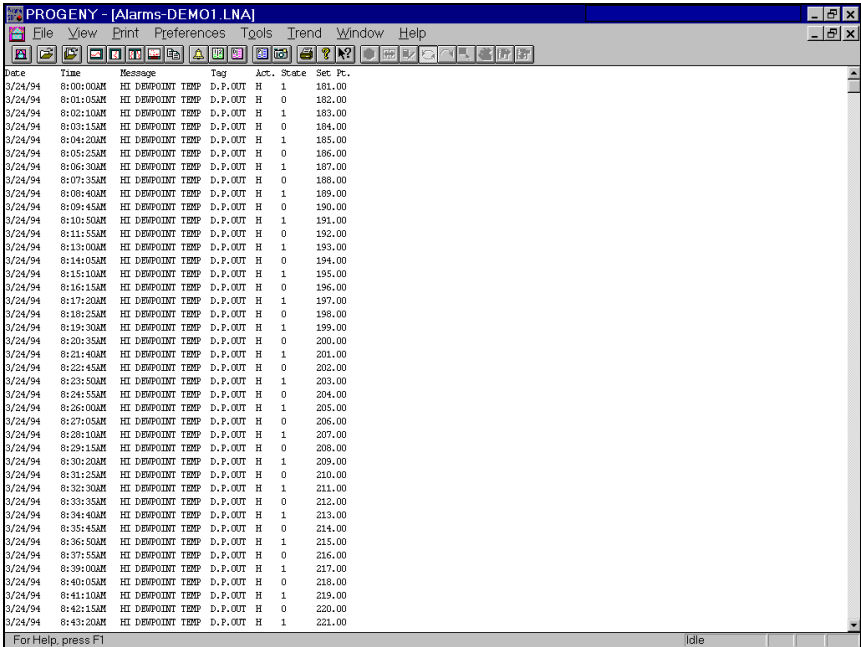

Figure 3 Data Table of Alarms
- View alarms, events, diagnostics, and trend points in tabular form (that is, data table). Shown for each data point are the date, time, value or state, and batch number. (Figure 3).